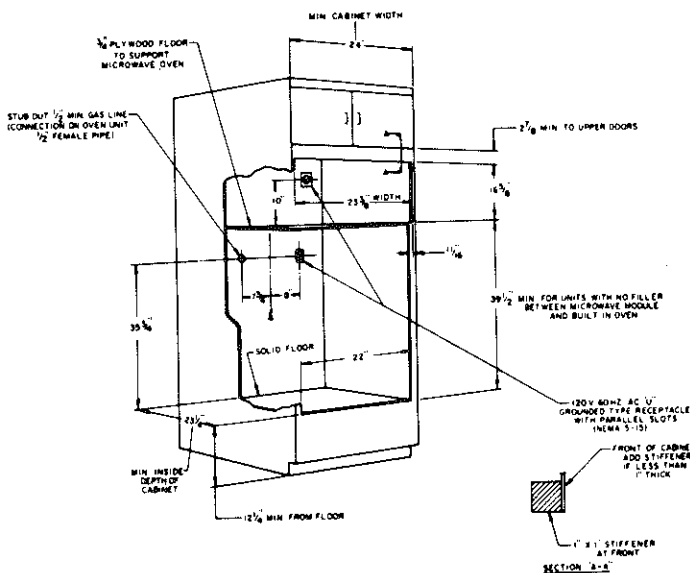

FIGURE 7
The microwave built-in wall oven may be installed in a cabinet directly over a Caloric Gas built-in RWP/RXP unit. Figure 7 provides specifications for installing the microwave unit directly over a Caloric standard gas unit.
1. Prepare the cabinet in accordance with specifications shown in Figure 7.
- C. The microwave unit is fastened to the front of the cabinet by three (3) screws. If the thickness of the cabinet front is less than 1" thick, a 1" by 1" stiffener must be secured along the top edge of the cut-out (see section "A-A").
2. A separately fused fifteen (15) amp 120V 60 HZ wall receptacle must be installed in the rear wall of the cabinet. The receptacle must be installed in the rear wall of the cabinet. The receptacle must be located within the microwave cutout area no less than ten (10) inches from the vertical plan of the floor. The electrical supply cord is equipped with a three (3) prong plug. Do not remove the third (ground) on the plug. A qualified electrician must be contacted if the wall receptacle will not accept the three (3) prong plug supplied with the microwave unit.